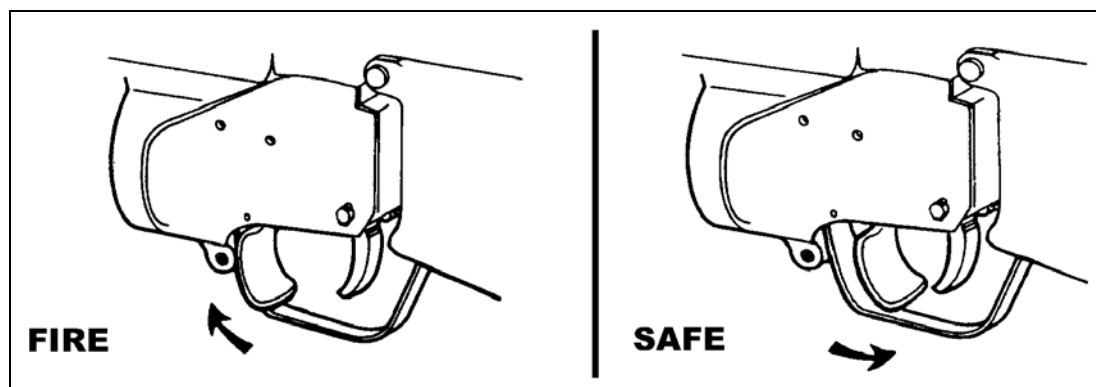

Figure 3-8. Safety.
g. **Safety.** The safety is inside the trigger guard, just in front of the trigger. For the launcher to fire, the safety must be forward. When the safety is rearward, the launcher is on SAFE. The safety is manually adjusted (Figure 3-8).